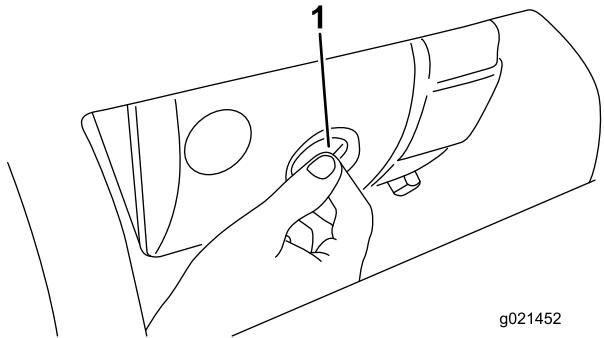

Figure 17
- Unscrew the plastic wing nut and remove the cover (Figure 17).
7. Securely install the cover with the wing nut (Figure 17).